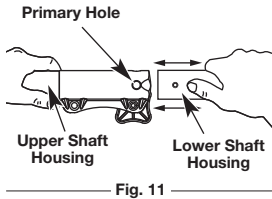

Fig. 11
3. While firmly holding the upper shaft housing, pull the cutting attachment or add-on straight out of the EZ-Link™ coupler (Fig. 11).
2. While firmly holding the add-on, push it straight into the EZ-Link™ coupler (Fig. 11).